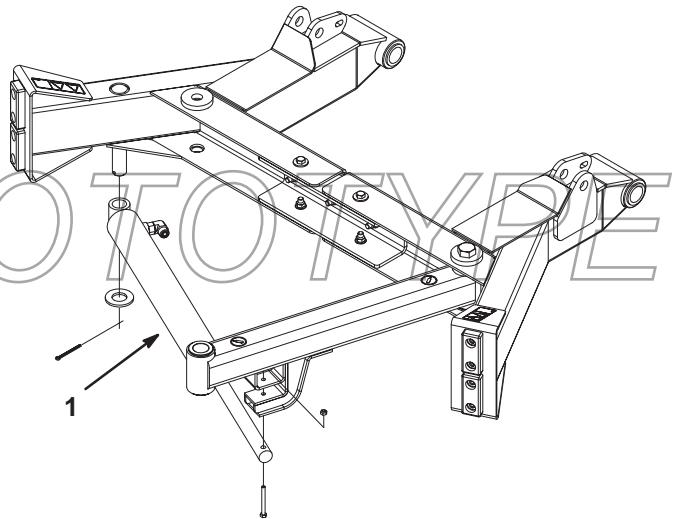

Figure 11
7. Secure cylinder to post on underside of right lift arm with a 1.063 x 2.000 flat washer and cotter pin (Fig. 11).
8. Secure shaft end of cylinder to mounting gusset on under side of left brush arm with a M6–1 x 60 capscrew and M6 locknut (Fig. 11). Torque to 87–105 in-lb.